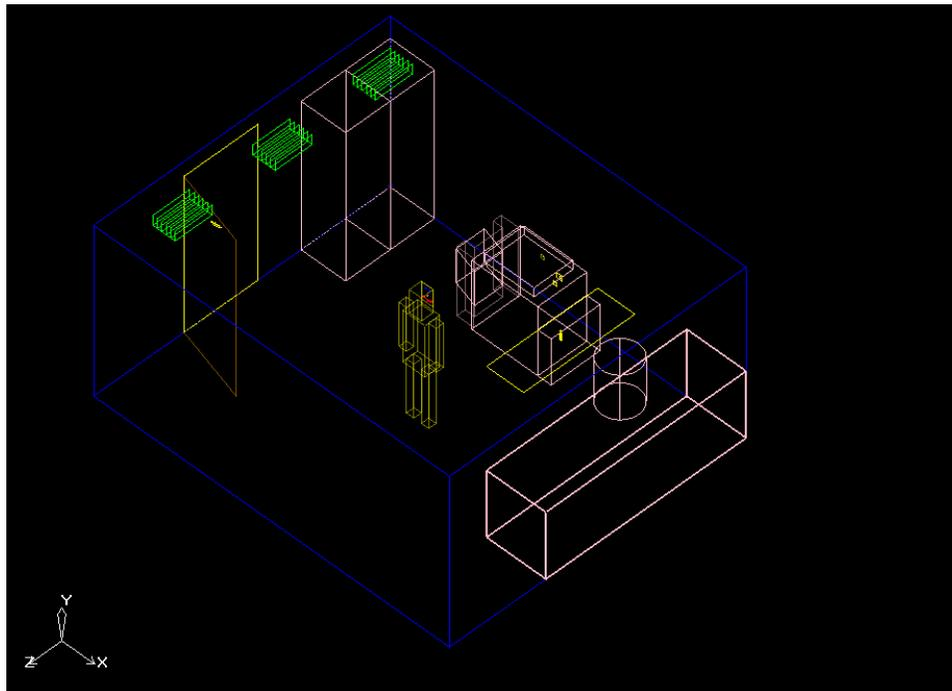

Figure 3.7: Completed Model for the Copier Emissions Simulation
*The completed model will look like Figure 3.7.*